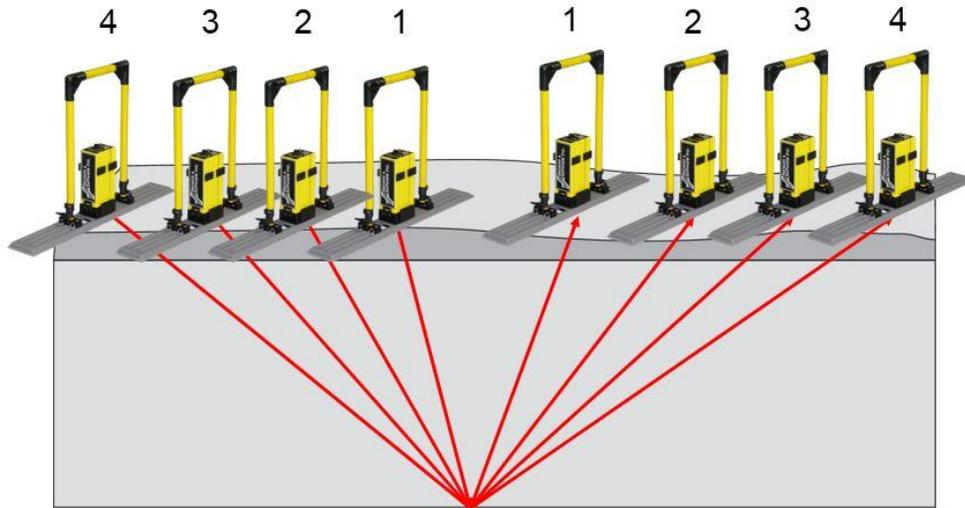

Figure 6-13: Common Mid-Point survey
- CMP** – Short for Common Mid-Point, this survey is performed when you want to determine GPR velocity in an area. For best results, this survey should be performed in an area with a flat, subsurface boundary. CMP surveys work by increasing the antenna separation about a common middle point, thereby increasing the signal path length. The data collected can be analyzed to determine the velocity in the soil above that reflector (Figure 6-13).